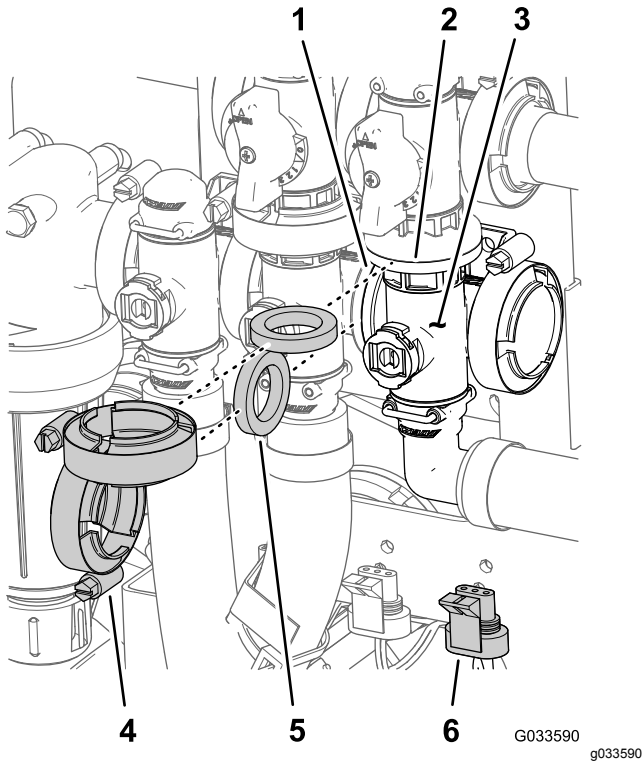

Figure 117
1. Remove flange clamps and gaskets that secure the manifold for the master-boom valve (Figure 117) to the master-boom bypass valve, agitation valve, and 90° flanged elbow (at the end of the hose for the flow meter).